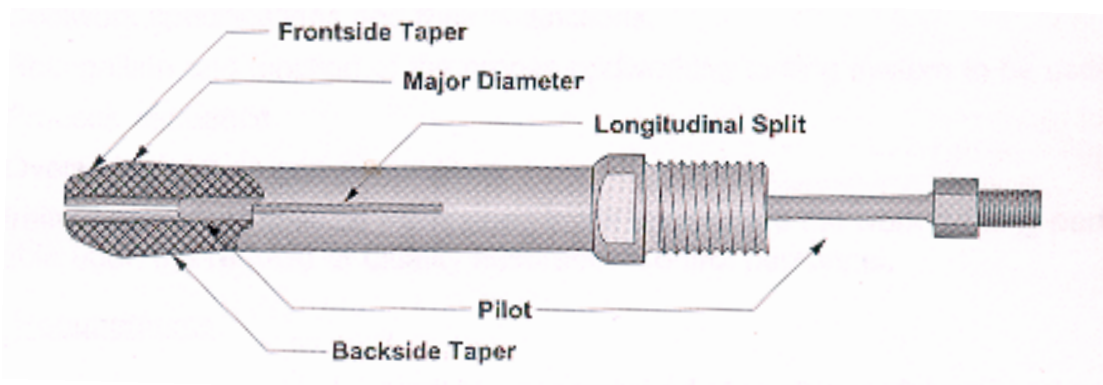

Figure 5 - Mandrel (Split Mandrel Process)
- 5.2.6 **Mandrel (Split Mandrel Process):** A tool manufactured from high strength steel with dual tapers and longitudinal slots. The slots and front taper allow the mandrel to be inserted in the starting hole (see Figure 5).